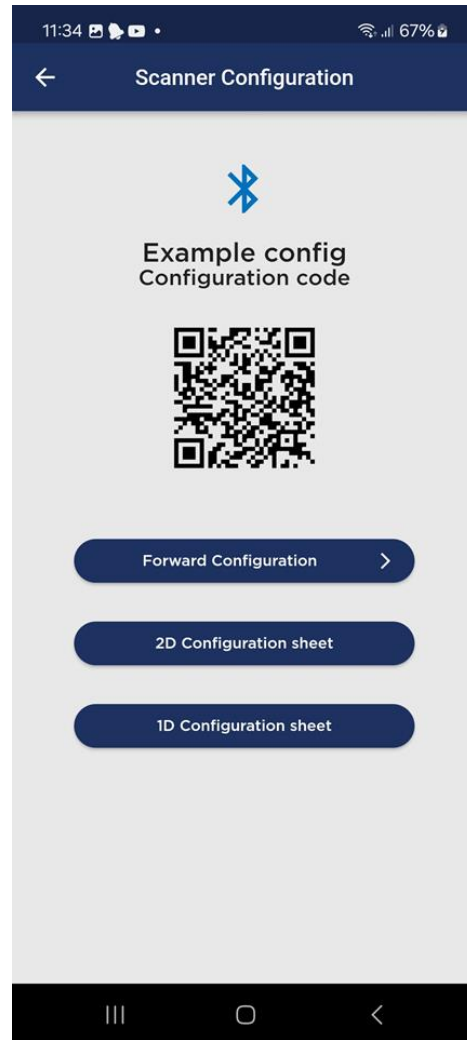
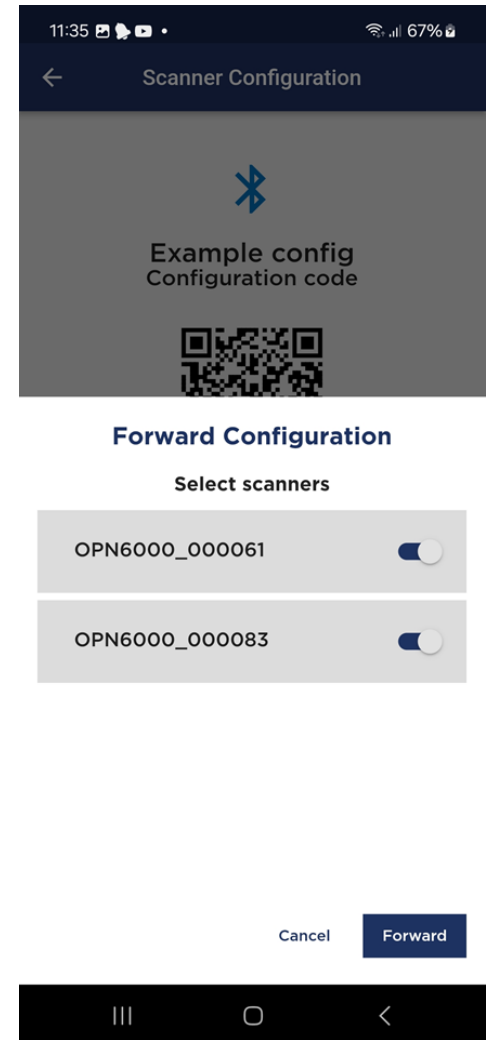

Figure 7-14: The *Scanner Configuration* page for a specific stored scanner configuration.
Figure 7-15: The *Forward Configuration* dialog to forward the configuration to connected scanners programmatically.
- Scanning the QR code:** If you are using a 2D scanner (such as the OPN-6000), the quickest method to apply the configuration is by scanning the QR code displayed on the configuration screen (Figure 7-14). This will instantly load the configuration onto the scanner without the need for additional steps.
- Forwarding Configurations:** As illustrated in Figure 7-14 and Figure 7-15, you can also forward a stored configuration to connected scanners programmatically. Simply tap the *Forward Configuration* button, select the target scanners from the list, and confirm the action. This method is ideal for quickly deploying configurations to multiple devices without scanning.
- Generating Opticonfigure Configuration Sheets:** OptiConnect allows you to generate and print configuration sheets for 1D and 2D scanners (Figure 7-14). These sheets can be printed and scanned to apply settings or review the configuration.